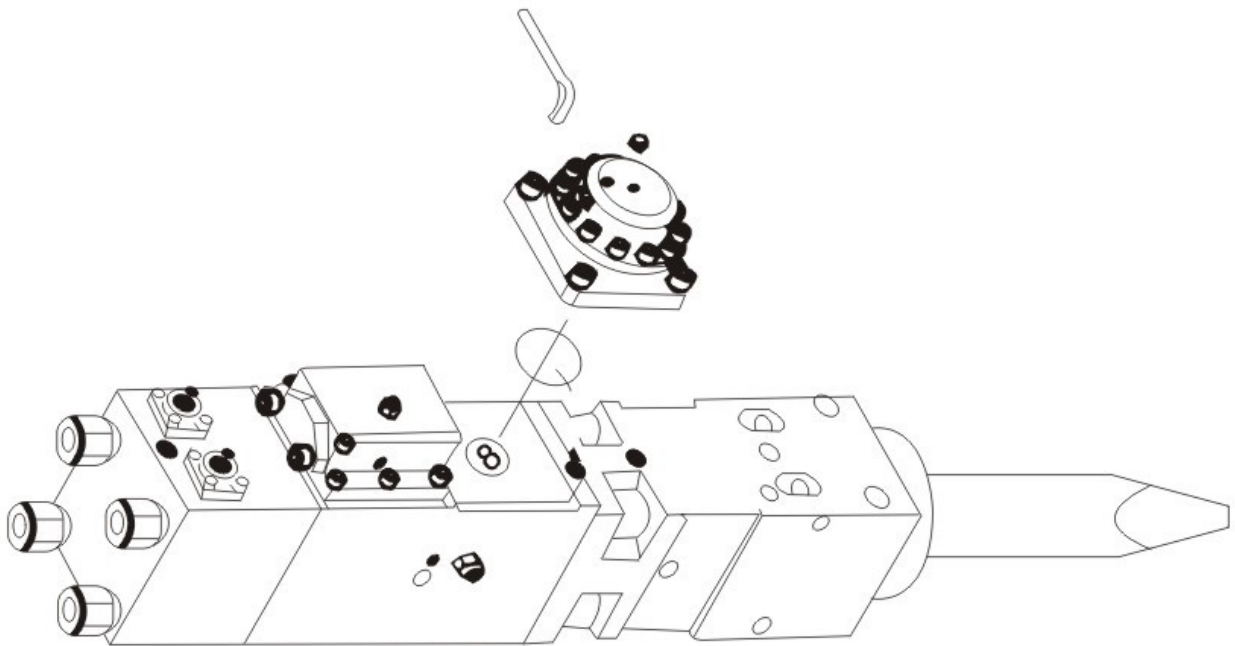

Fig 4-3
- * Place the accumulator ass'y flat as Figure 4-3, then use an inner hexagon spanner to dismantle them.